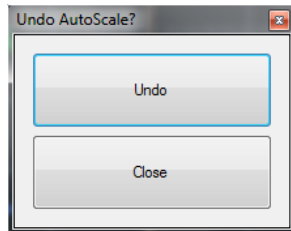

Figure 2-39 Undo AutoScale? dialog
- 3 Once autoscaling has completed, the Undo AutoScale? dialog is displayed as shown in Figure 2-39.